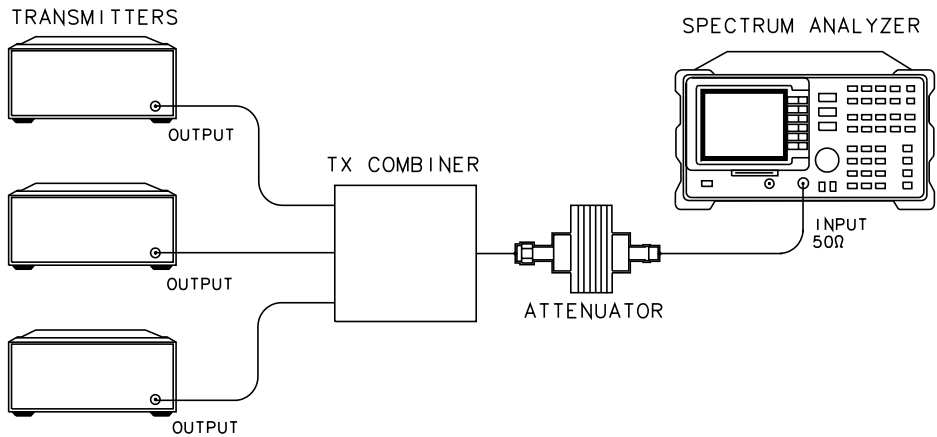

Figure 35 Test Setup for Intra-BSS Intermodulation - TX Band
- 1 Refer to Figure 35 on page 82 for the test setup.